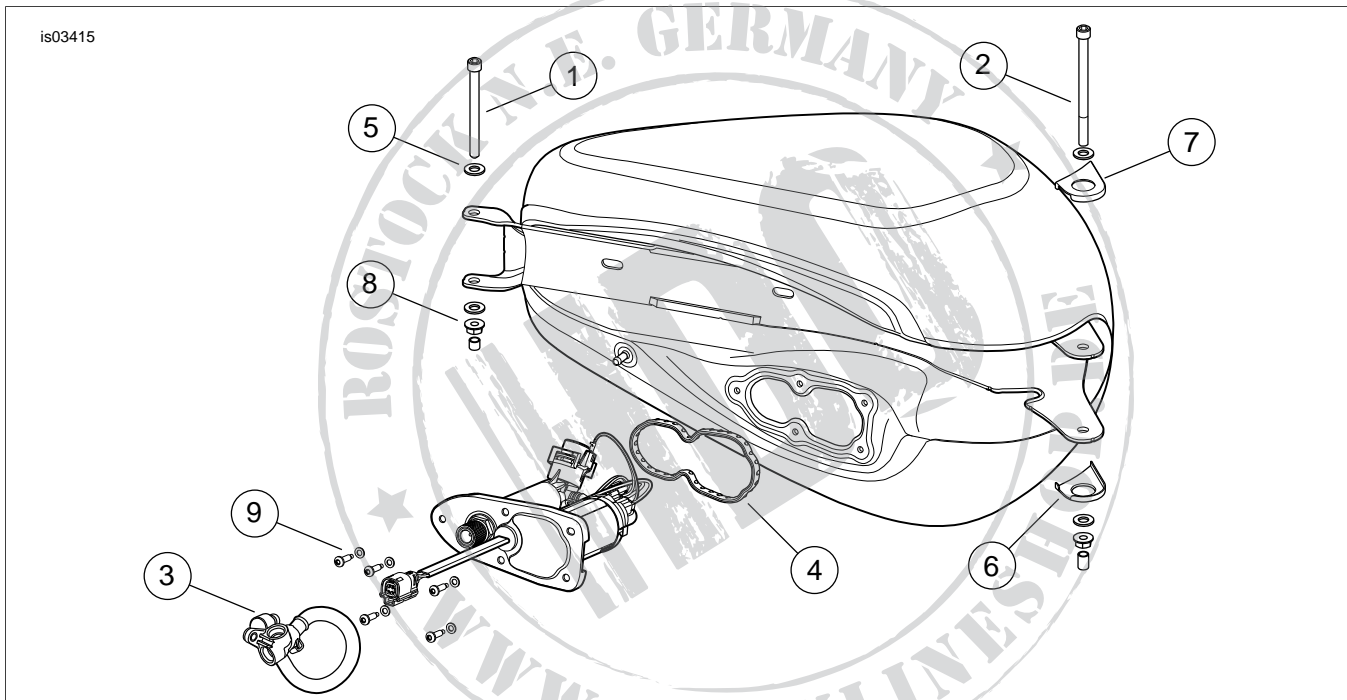

Figure 2. Service Parts
See Figure 2 and Table 2.
2. See Figure 2 and Table 2. Install the right (6) and left (7) fuel tank mount trim onto the new fuel tank front mounting tabs.